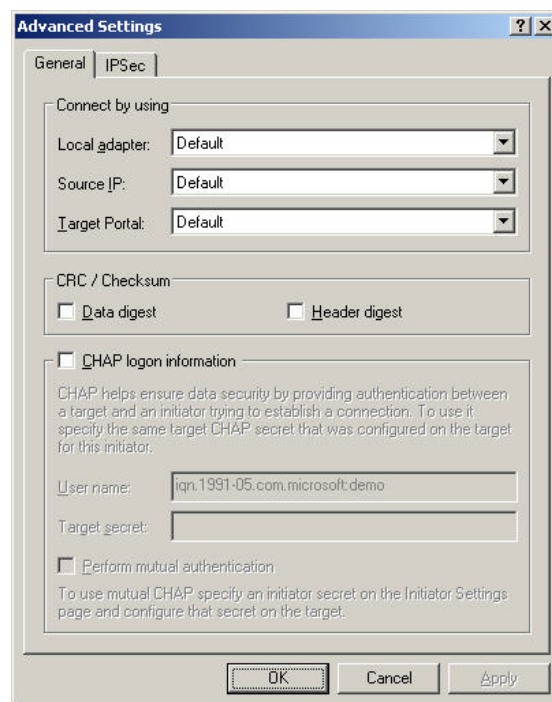

Figure D.6
7. Click **“Advance”** if CHAP information is needed. Please see Figure D.6.